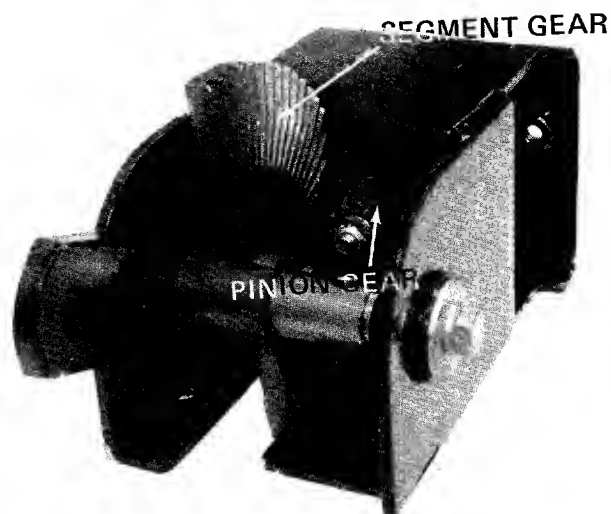

FIGURE 13.
**STEERING GEARS** - Wipe off the old grease and dirt. After every 25 hours of operation place an automotive multi-purpose grease in the teeth of the segment and pinion gears. See figure 13.